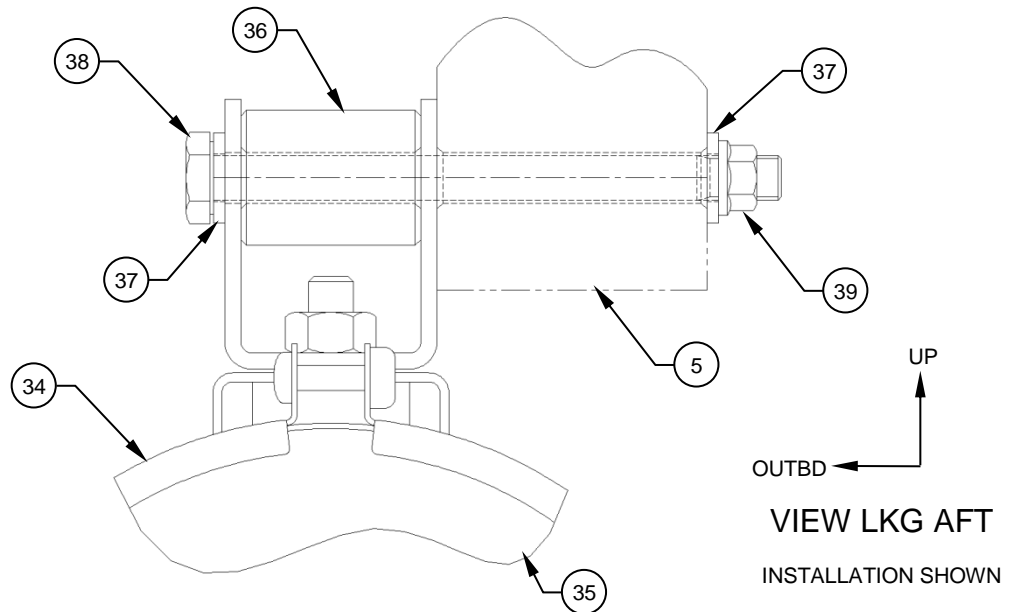

Figure 7
18. Install the Housing, Assys (Item 34) on the Mounting Block, Assys (Items 4 & 5). Reference Figure 7 & 8.
19. Connect the Wiring Harness, Assy (Item 41) to the appropriate Housing, Assys (Item 34) and assemble with Lamp, Assys (Item 35). Reference Figure 7, 8 & 13.